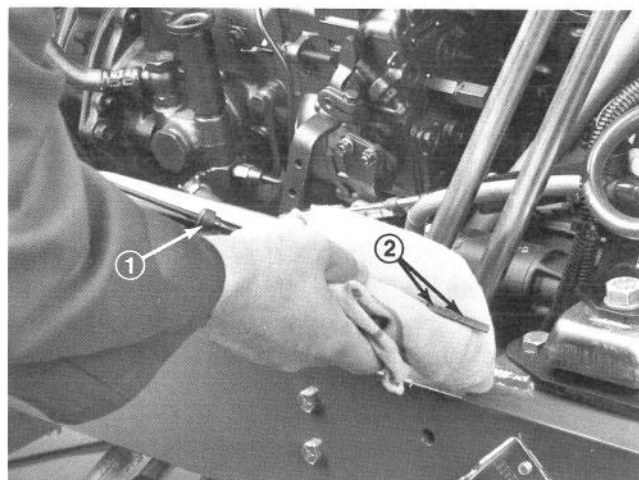
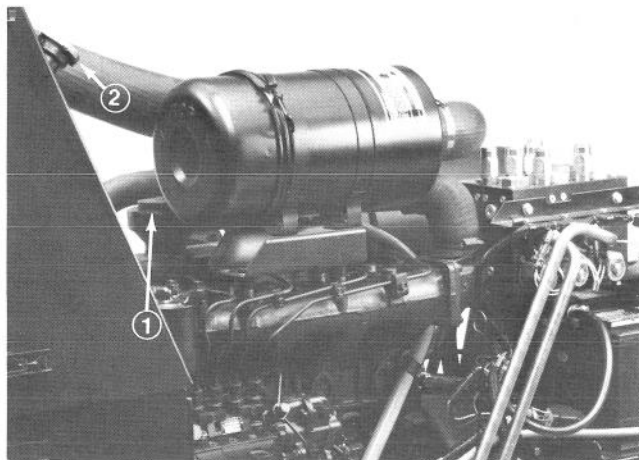

Figure 3
Figure 4
3. Remove dipstick, wipe with a clean rag (Fig. 3) and insert in tube until it is fully seated. Remove from tube and check oil level. If oil level is low, re-
move filler cap (Fig. 4). Add oil until level is to top notch on dipstick (Fig. 3). **DO NOT OVERFILL.**
2. Remove radiator cap (Fig. 4). Level of coolant must be above the radiator core and about 1 in. (25 mm) below bottom of filler neck.